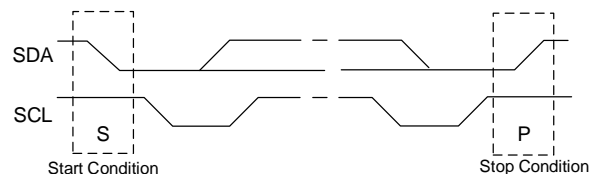

Figure 13: Start (S) and Stop (P) Conditions
The start (S) and stop (P) conditions are signaled by the master device, and signify the beginning and the end of an I²C transfer. The start condition is defined as the SDA signal transitioning from high to low while SCL is high. The stop condition is defined as the SDA signal transitioning from low to high while SCL is high (see Figure 13).